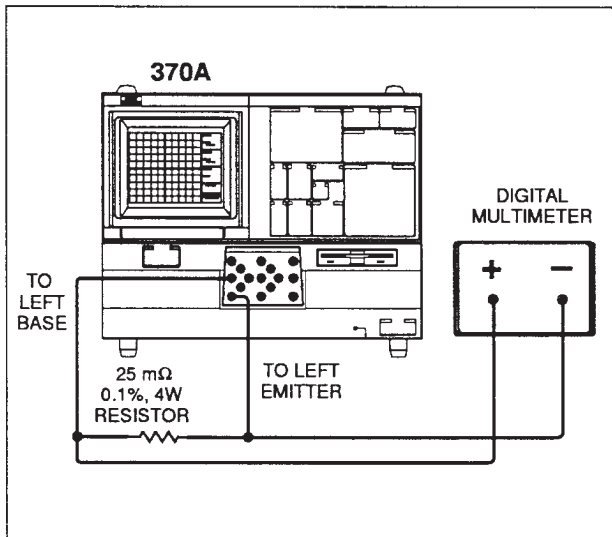

Figure 4-7. Checking for Maximum Current Output of 100 mA and 200 mA range.
- q. Connect a 0.025  $\Omega$  Resistor between the Left Base jack (B) and the Left Emitter jack (E) and connect the Digital Multimeter to the leads of the Resistor as shown in Figure 4-7.